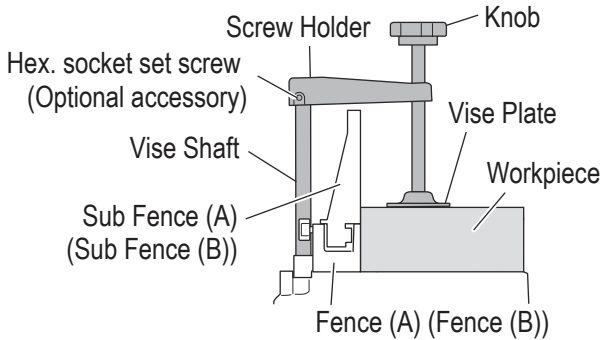

Fig. 20
3. Using the Vise Assembly (Standard accessory) (**Fig. 20**)
- (2) Turn the upper knob and securely fix the workpiece in position. (Fig. 20)